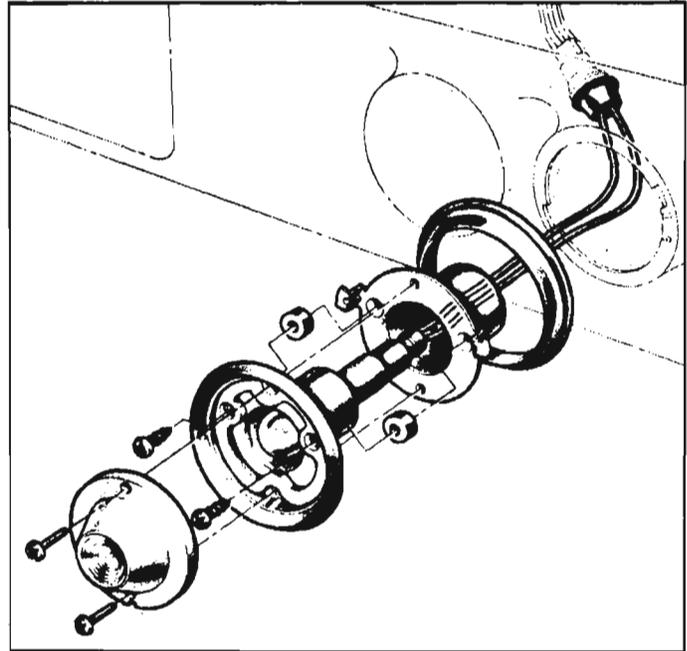

Fig. 8-113—Tail, Stop and Back-Up Lamp—Exploded View of Installation (Typical)
- a. Remove the two screws securing lens to housing and remove lens. See Figure 8-113 for typical installation.